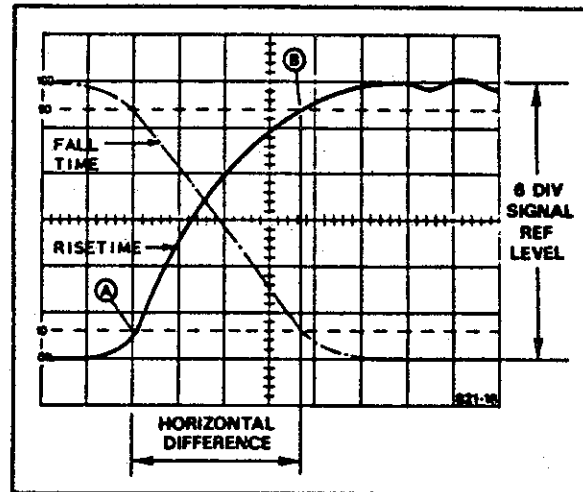

Fig 5-7
e. The waveform in Fig 5-7 has a Horizontal difference of 3.7 div. If the SEC/DIV was 4µsec and magnification was x1
f. Fall time is measured in the same manner, excepting the 90% fall point is aligned with a vertical graticule mark as shown by the dotted line in Fig 5-7.